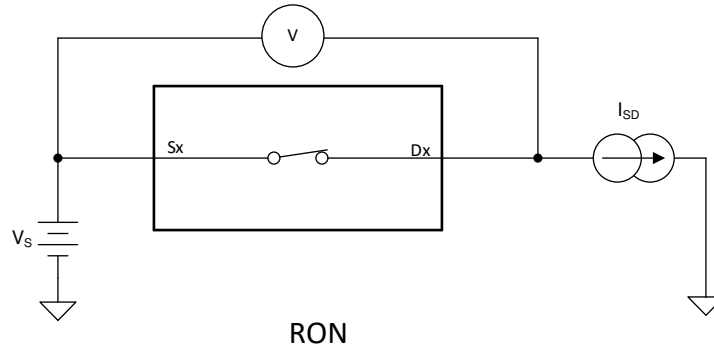

Figure 6-1. On-Resistance
The on-resistance of a device is the ohmic resistance between the source (Sx) and drain (D) pins of the device. The on-resistance varies with input voltage and supply voltage. The symbol R_{ON} is used to denote on-resistance. Figure 6-1 shows the measurement setup used to measure R_{ON} . Voltage (V) and current (I_{SD}) are measured using the following setup, where R_{ON} is computed as $R_{ON} = V / I_{SD}$.